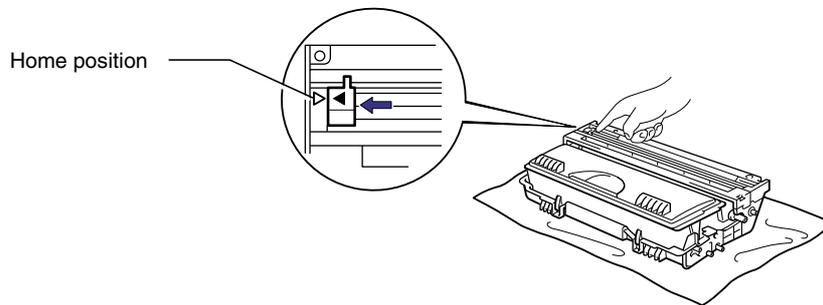

Fig. 5-8
- (8) Re-install the drum unit assembly into the printer. Close the front cover.
- Make sure that the wire cleaner on the drum unit is returned to the home position (▲ mark position) before re-installing the drum unit into the printer, or printed pages may have vertical stripes. (Refer to Fig. 5-8.)